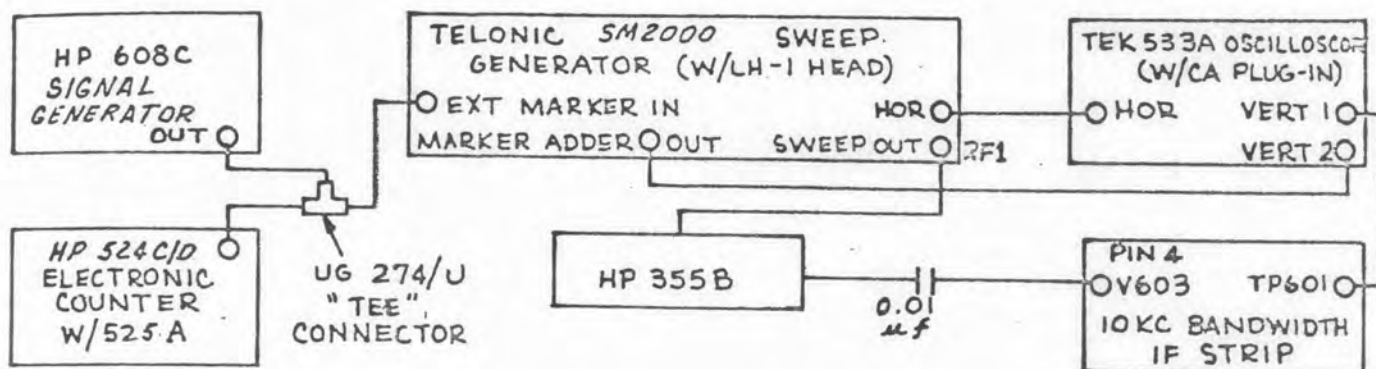

Figure 5-8
- a. Set up equipment as shown in figure 5-8.
a. Connect equipment as shown in figure 5-8, and perform initial settings listed in paragraph 5-16.
a. Set up the equipment as shown in figure 5-8, except transfer connection from pin 4 of V603 (without capacitor) to TP301 in the high-band tuner.